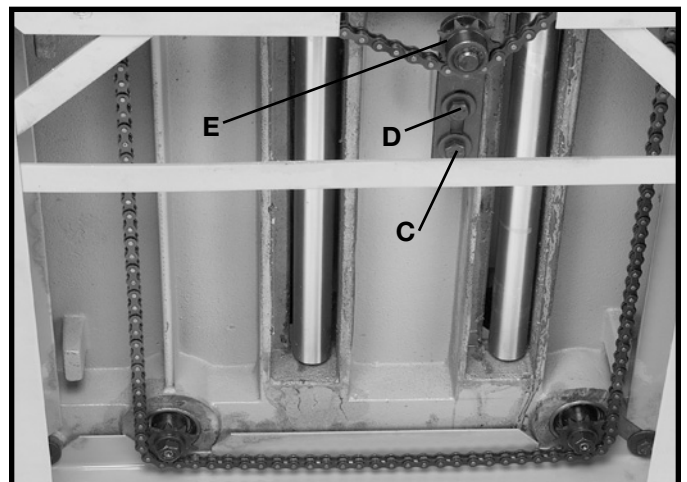
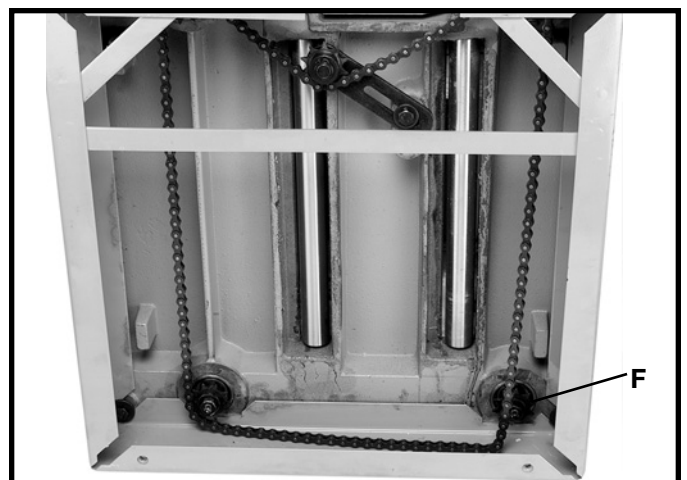

Fig. 51
Fig. 52
4. If head casting is not parallel to table, tilt planer on its side as shown in Fig. 51. Remove bolt (C) and loosen bolt (D) Fig. 51, which will allow you to move the idler sprocket assembly (E) far enough to release tension on chain as shown in Fig. 52. Remove chain from sprocket on end of headcasting that must be adjusted. In this case chain has been removed from sprocket (F).
5. Turn sprocket (F) Fig. 52, by hand to bring that corner into adjustment with the other three corners. **IMPORTANT: THIS ADJUSTMENT IS VERY SENSITIVE AND IT SHOULD NOT BE NECESSARY TO TURN THE SPROCKET MORE THAN ONE OR TWO TEETH.** Turning sprocket (F) clockwise will decrease the distance between the table and headcasting. Counterclockwise will increase the distance.
6. Replace chain being careful not to disturb the position of the sprockets and replace idler sprocket assembly (E) Fig. 51.